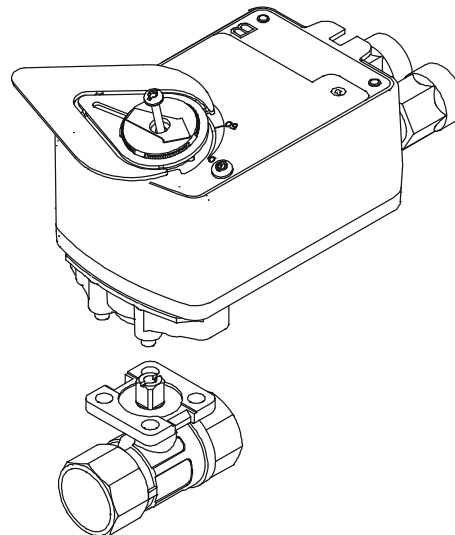

Figure 15: Mount the Actuator
6. Install the actuator on the ball valve (Figure 15). Tighten the actuator mounting screw to a torque of 10 to 12 lb-in. (1.1 to 1.4 N·m) and snap the large adjustable pointer into place.